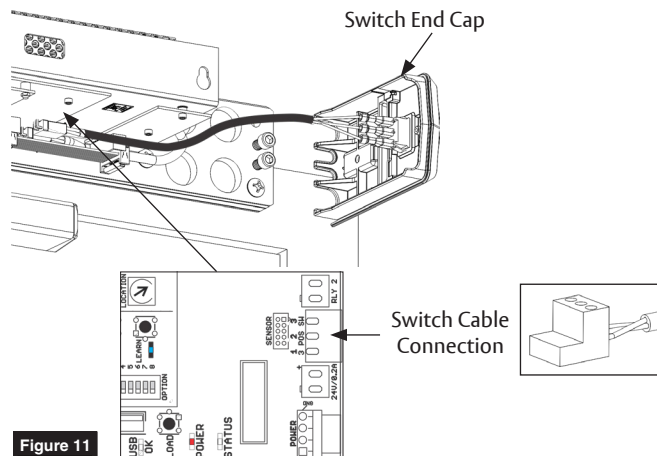

Figure 11
1. Install two (2) screws on each end of backplate leaving about 3/16" gap between head of screw and backplate. (Figure 11 & 12)
2. Slide end caps behind screw heads and tighten screws. (Figure 11 & 12)
3. Connect switch to power supply. (Figure 11)